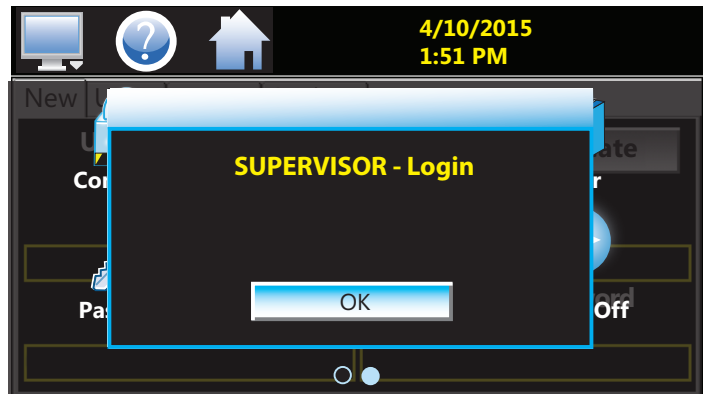

Fig. 18: Supervisor Login Confirmation
6. Supervisor login confirmation appears. Press OK (Fig. 18).